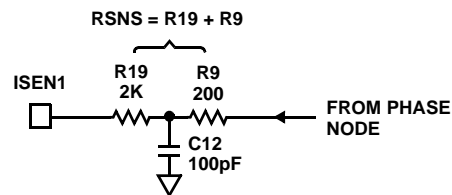

FIGURE 5. NOISE FILTER FOR ISEN1 INPUT
2. A 'T' filter consisting of a 'split' RSNS and a small, 100pF , capacitor as shown in Figure 5, may be helpful in reducing noise coupling into the ISEN input. For example, if the calculated value of RSNS1 is $2.2\text{K}\Omega$, dividing it as shown with a 100pF capacitor provides filtering without changing the current limit set point. For any calculated value of RSNS, keep the value of the R9 portion to approximately 200Ω , and the remainder of the resistance in the R19 position. The 200Ω resistor and 100pF capacitor provide effective filtering for noise above 8MHz .